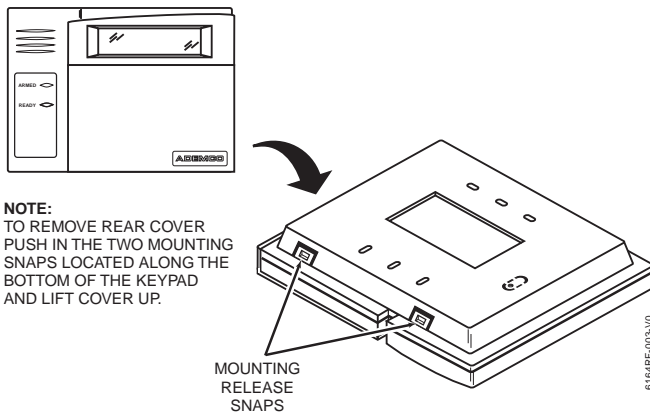

Figure 1. Removing the Case Back
1. Detach the case back by pushing up into one of the two slots at the bottom of the keypad with the blade of a small screwdriver (this will push in the release snap), then pull that side of the case back away. Repeat for the other side. Refer to Figure 1 for location of the case back release snaps.